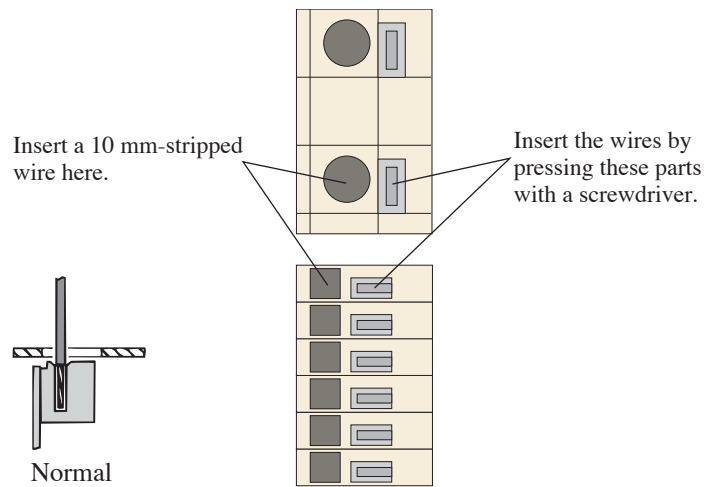

Fig. 4-2 Connection to J1 and J2 terminal boards
3. Insert wires into terminal boards as shown in Fig. 4-2.